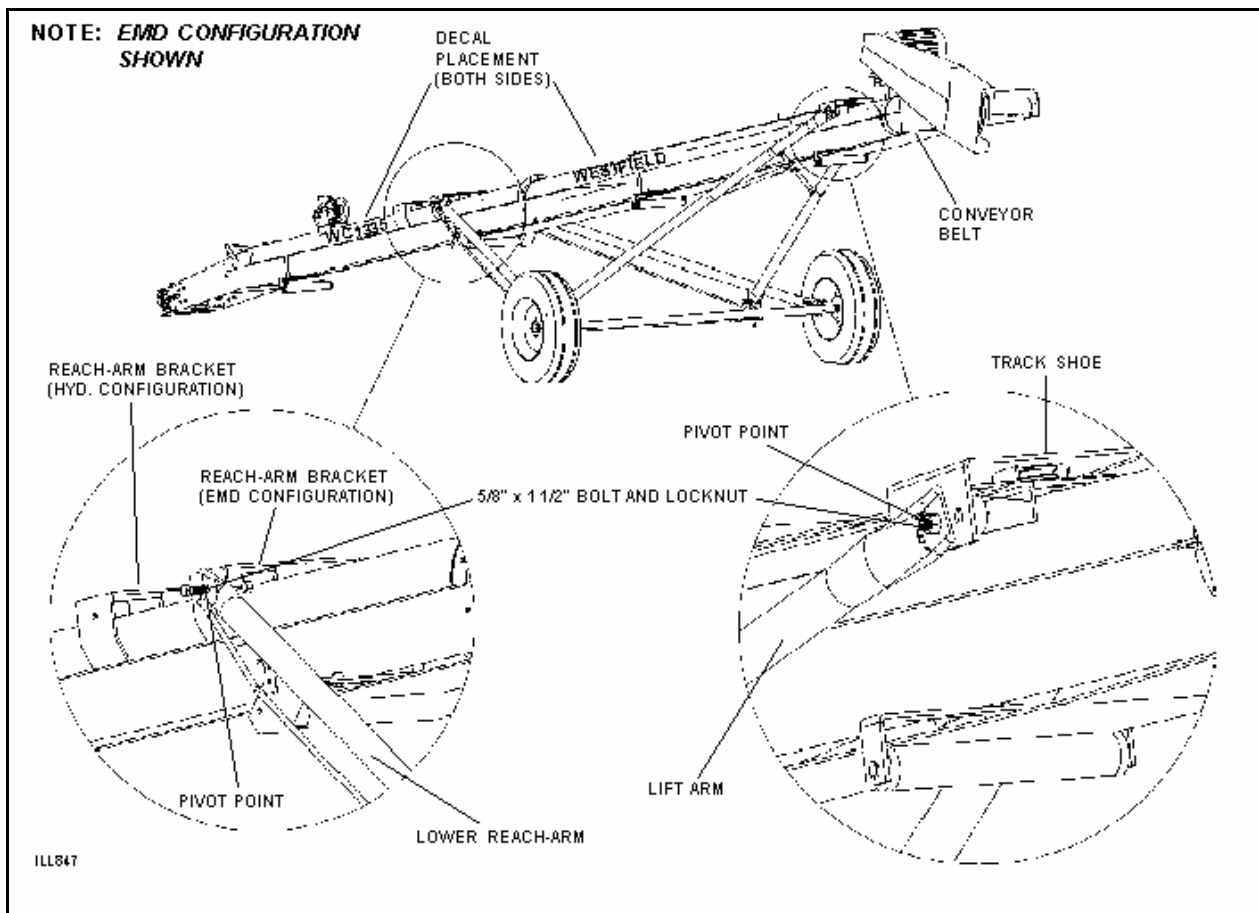

Figure 3.25
5. Do not fully install tubing crossmember brace support at this time. Slide only the tube clamps (4) over the flat pressed ends of the lift arms.
*For EMD (Electric Motor Drive) or hydraulic mounting positions and hole locations, see Figure 3.25.*
1. To place the model decal ("WC1335") on the conveyor, refer to Figure 3.25. This view is of the right side of the conveyor, determined when standing at the conveyor intake and looking towards the discharge. Ensure that each decal is centered on each side of the tube, at the approximate position shown.